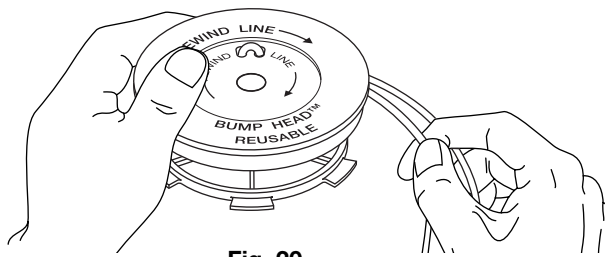

Fig. 20
7. Wind the lines in tight even layers, onto the reel (Fig. 20). Wind the line in the direction indicated on the inner reel. Place your index finger between the two lines to stop the lines from overlapping. Do not overlap the ends of the line. Proceed to step 11.